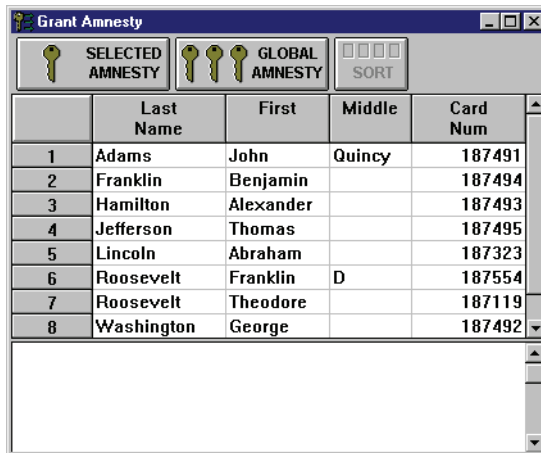

Figure 6-27: Grant Anti Passback Amnesty Window
1. To enter the grant APB amnesty window, click on the Operate ⇒ Amnesty pull-down menu option. The Grant Amnesty window appears (see Figure 6-27). This window includes a list of all users eligible to be granted APB amnesty.